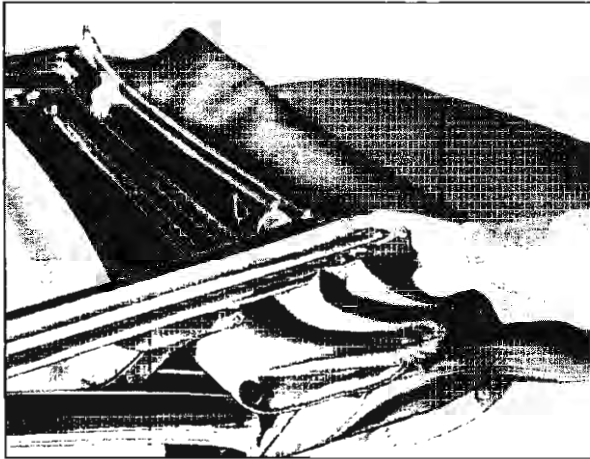

Fig. 21-17 Rotating Top Forward
- B. Standing along side of car, grasp front corner of folding top as shown in Fig. 21-17, lift and rotate top forward.